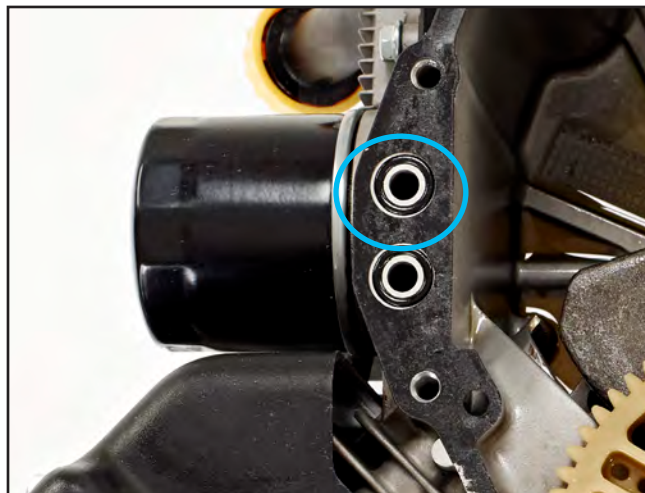

Figure 14
6. Inspect and clean oil lubrication passage to upper crankcase bearing (Figure 14).